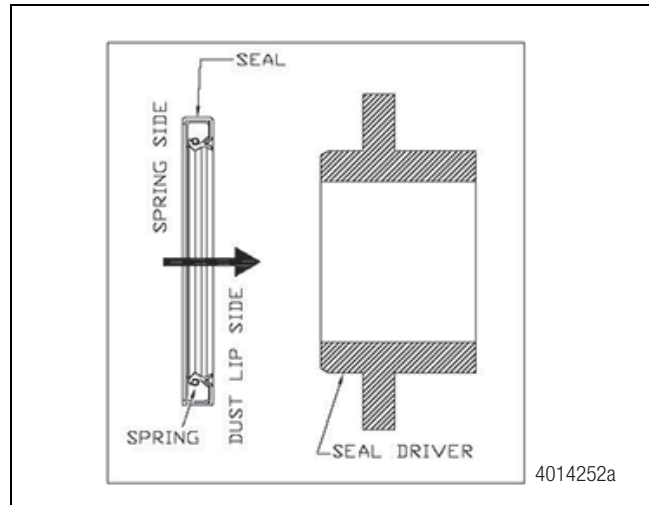

Figure 8.2
7. Place seal on seal driver tool as shown in Figure 104 below, ensuring the spring side is facing away from seal driver tool. For top input and rear output locations, use seal (732-0467), and seal driver (866-0888). For Front output location, use seal (732-0466), and seal driver (866-0861). Figure 8.2.